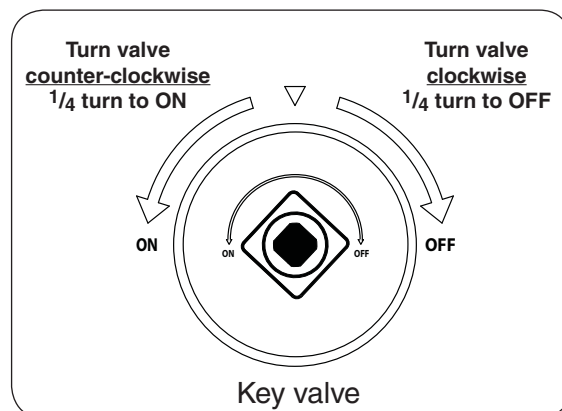

Fig. 23-2
4. **Once the match is burning and in position**, turn the key valve counter-clockwise a $\frac{1}{4}$ turn to the **ON** position (see Fig. 23-2). Your burner should light.
To extinguish your gas burner, turn the key valve clockwise a $\frac{1}{4}$ turn to the **OFF** position (see Fig. 23-2). Be sure the key valve is turned fully off to avoid any gas leakage.